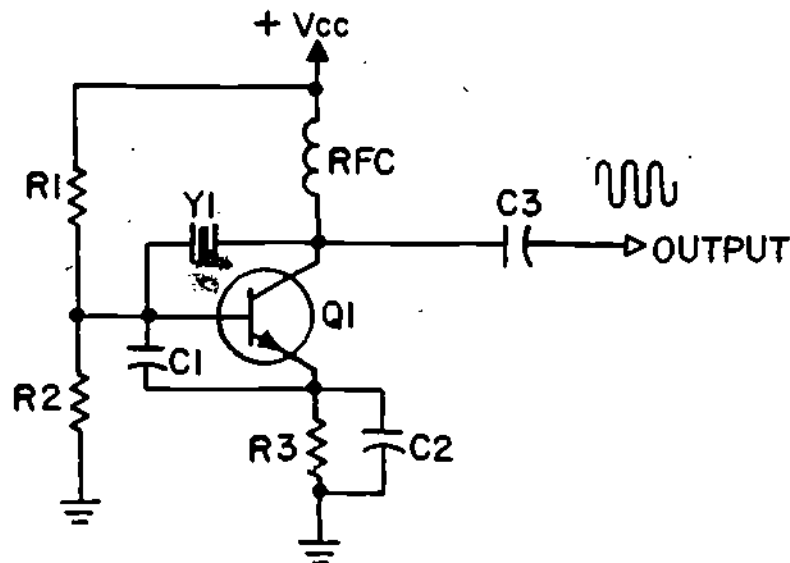

Figure 14
- (15.) The function of the components in the Pierce crystal oscillator, shown in Figure 14, now will be discussed.
In Figure 14, the three crystal oscillator components are _____,